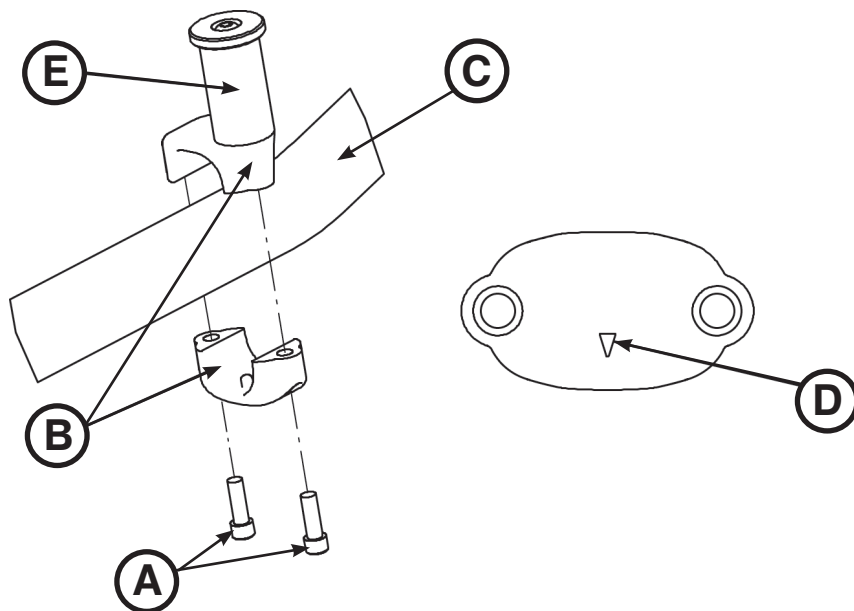

Figure 92: Cot Retaining Post
1. Using a 3/16" hex wrench, remove the two socket head cap screws (A) that hold the pin brackets (B) to the base frame (C) (Figure 92).
Note: If the arrow (D) on the bottom bracket of the retaining post (E) points toward the head end of the cot, the retaining post is set for an X-frame style cot. If the arrow points toward the foot end of the cot the post is set for an H-frame style cot (Figure 92).